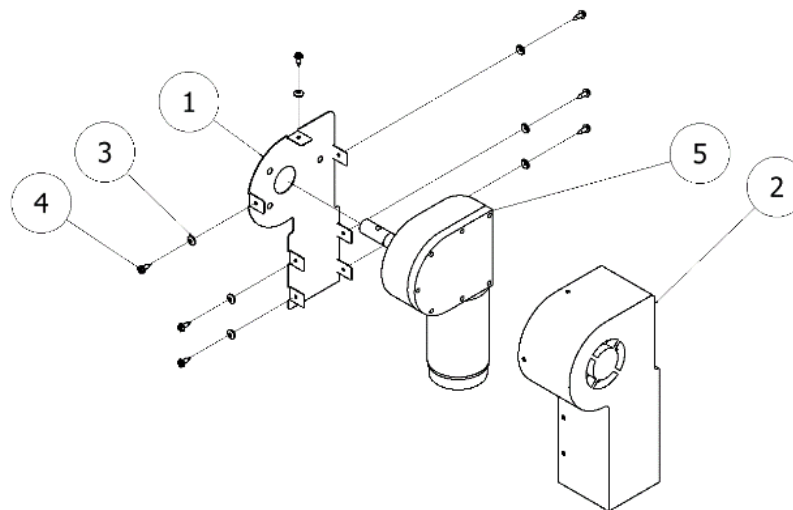

Figure C.2
Attach the chrome motor cover (2) to the motor cover plate (1) using the seven supplied #10 screws (4) and rubber grommets (3). (Figure C.2)